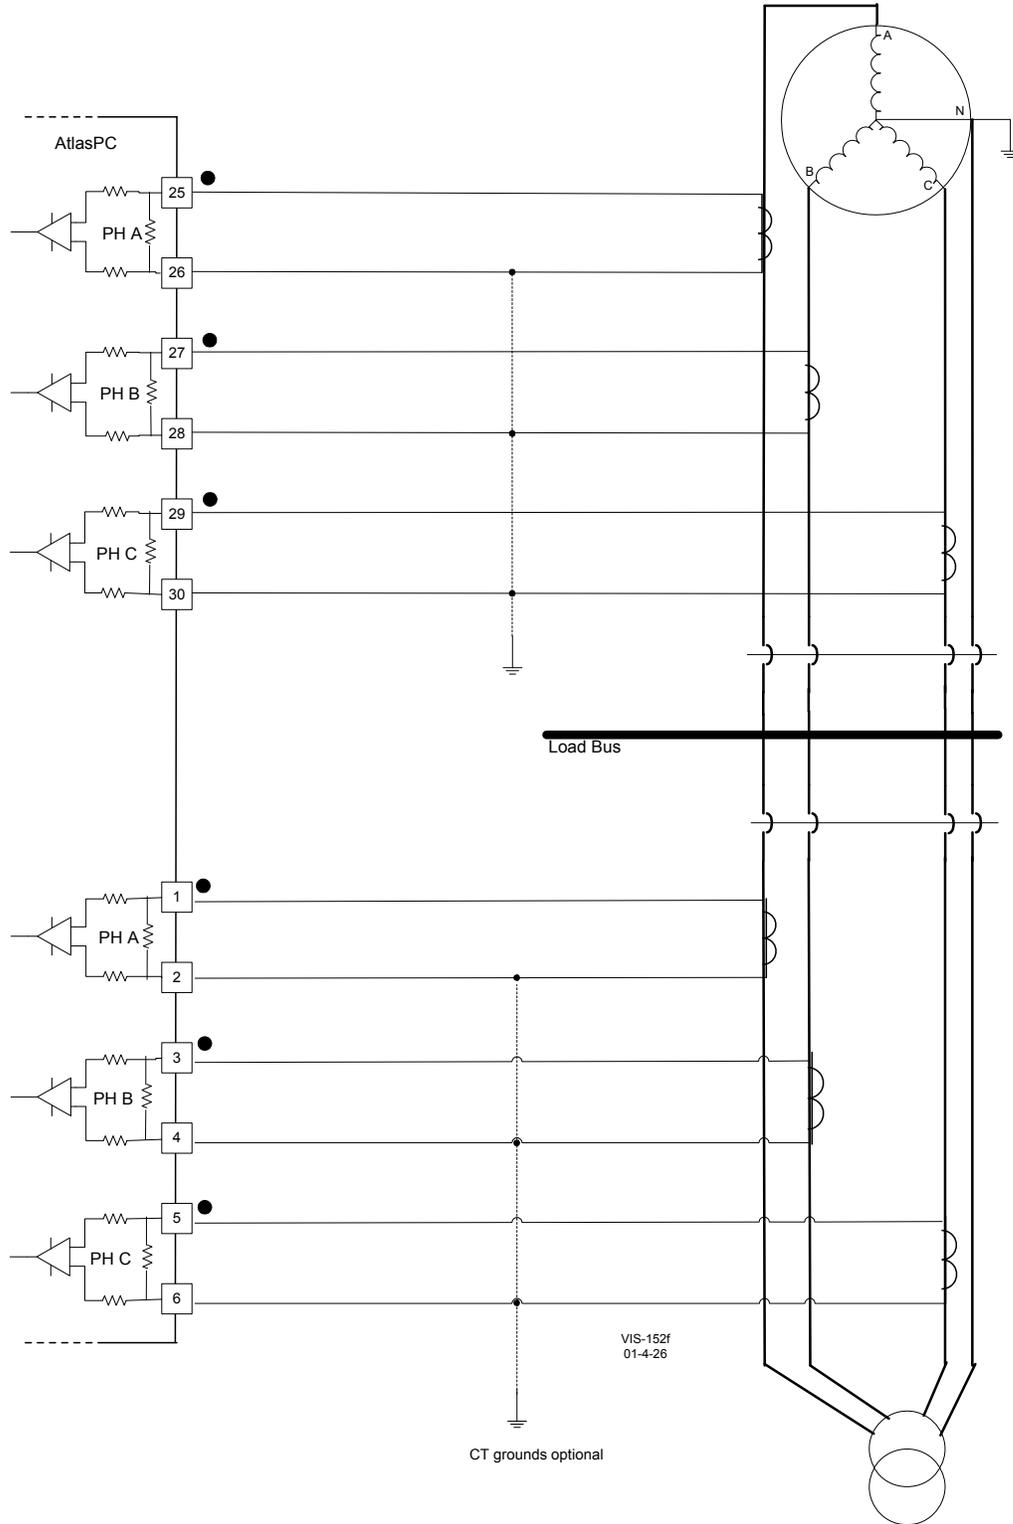

Figure 6-8. CT Interface to the PowerSense Board (wiring example)
- Refer to Figures 6-8 and 6-9 for CT wiring.